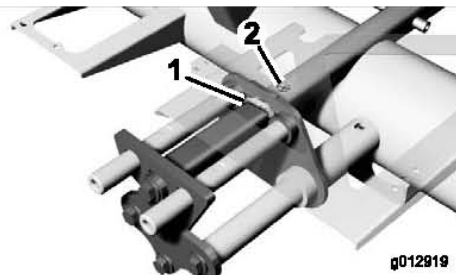

Figure 7
12. Secure the top and bottom of the frame stub to the lift plate with a 1/4 inch fillet weld (Figure 7).
15. Using the newly drilled holes in the frame tube, plug weld the stub shaft to the tube (Figure 7).